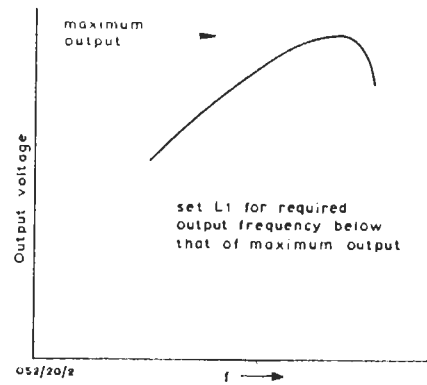

Fig. 2 Typical Voltage/frequency Response Curve for Adjustment of L1
3. Adjust L1 over the full range of possible operating frequencies for the particular crystal in use and plot a curve of output voltage against frequency. This curve should have a shape similar to that shown in Fig. 2 and indicates a rapid fall-off in output at the high-frequency end of the range.